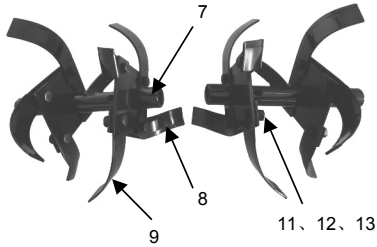

Figure 3
1. Refer to Figure 3 to tighten blade support and blade.